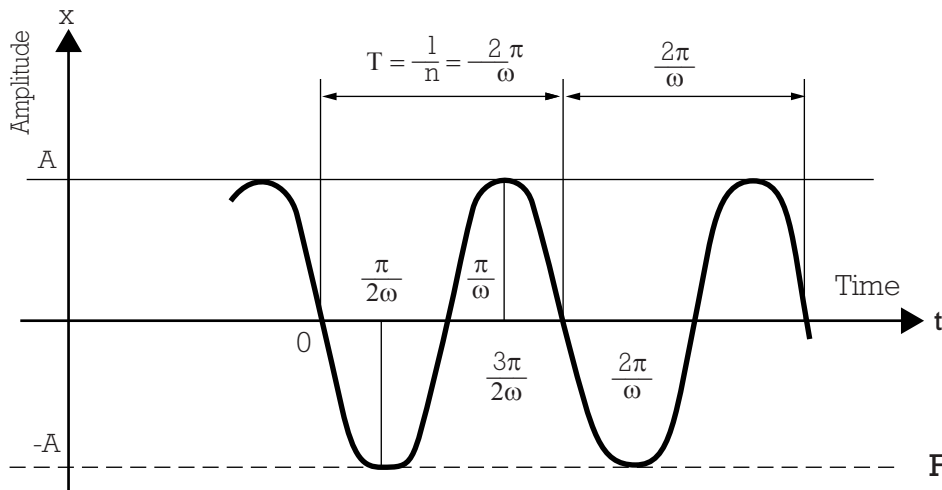

Fig. 1
• Sinusoidal vibration $x = A \sin \omega t$ (fig.1)
The oscillation continues indefinitely with an amplitude A (as shown in Fig. 1 with ω replaced by ω_o).